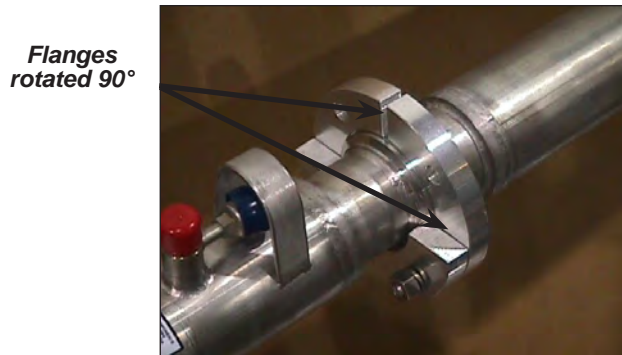

Figure 7
5. Back-up flanges are installed with left and right sides twisted 90° in relation to each other. See Figure 7.